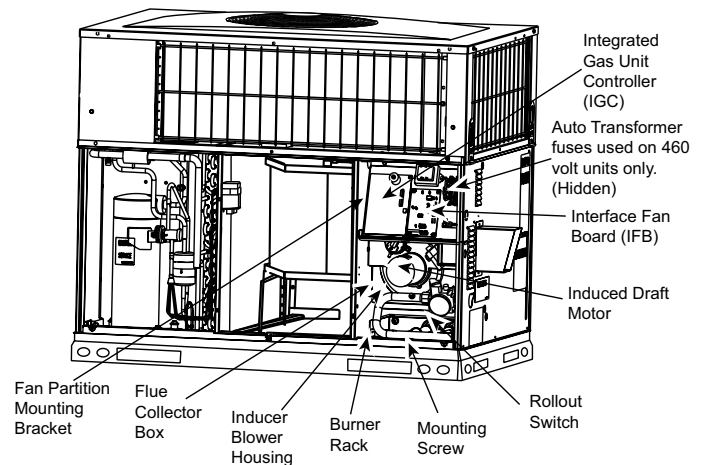
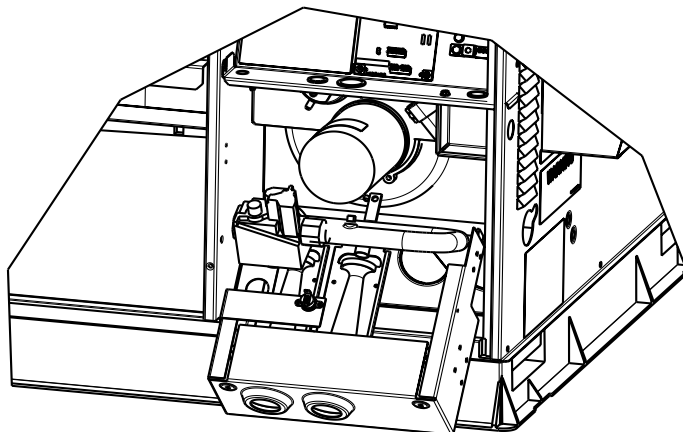

Fig. 20 – Blower Housing and Flue Collector Box
Fig. 23 – Burner Rack Removed
3. Slide the assembly out of the unit. (See Fig. 23). Clean the blower wheel. If additional cleaning is required, continue with Steps 4 and 5.
2. Remove the 11 screws holding the flue collector box cover (See Fig. 20) to the heat exchanger assembly. Inspect the heat exchangers.
Unit is equipped with a direct spark ignition 100 percent lockout system. Ignition module (IGC) is located in the control box (See Fig. 20). Module contains a self-diagnostic LED. During servicing, refer to label diagram or Table 8 in these instructions for LED interpretation.
5. Remove fan partition mounting bracket (2 screws located on the left side of control compartment on the fan partition panel). Slide bracket forward, bottom first, to remove. (See Fig. 20.)
7. Remove the mounting screw that attaches the burner rack to the unit base (See Fig. 20).
8. Partially slide the burner rack out of the unit (see Fig. 20 and Fig. 23). Remove ignitor and sensor wires at the burner assembly. Remove wires to rollout switch.
9. Slide the burner rack out of the unit (See Fig. 20 and Fig. 23).